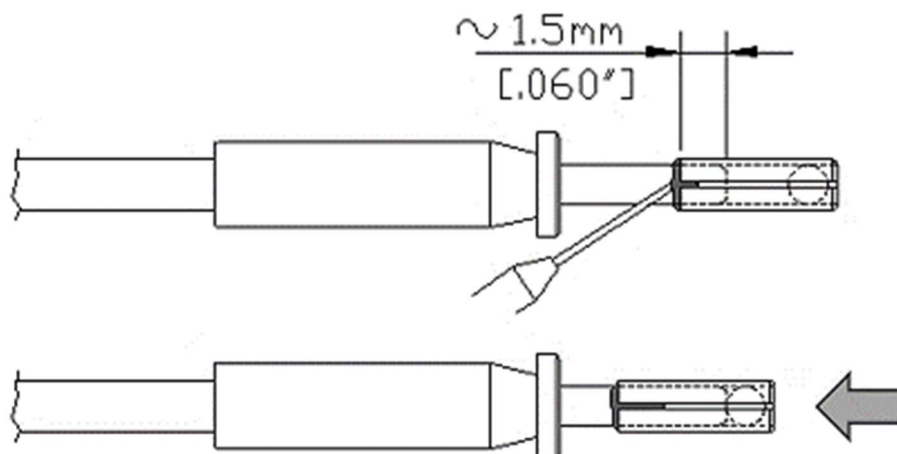

Figure 5
2. Apply EPO-TEK353® ND epoxy to the ferrule just below the lens unit, see Figure 5 and then continue to push the lens-unit straight down onto the ferrule (without rotation) until the ferrule front (fiber) makes positive contact with the lens.